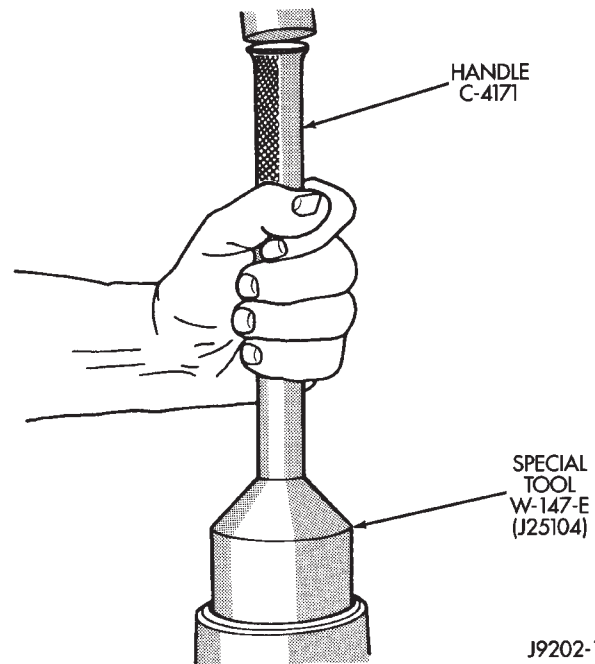

Fig. 4 Pinion Seal Installation
(1) Apply a light coating of gear lubricant on the lip of pinion seal. Install seal with Installer W-147-E and Handle C-4171 (Fig. 4).
(2) Align the installation reference marks and install yoke on the pinion gear with Installer W-162-D.